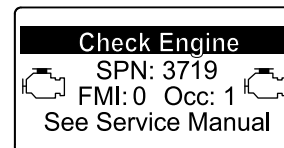

Figure 40
- If a recovery regeneration is needed, the InfoCenter displays engine warning SPN 3719, FMI 16 (Figure 40) and the engine computer derates engine power to 85%.